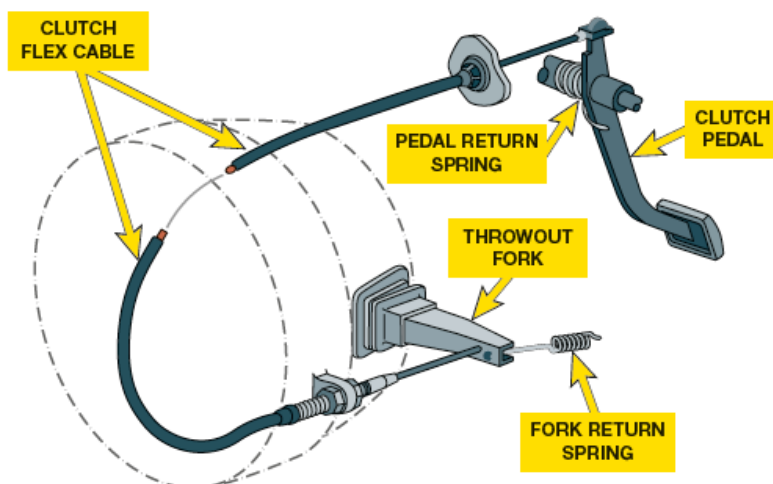

Figure 3. Clutch cable and pedal assembly.
- Inspecting mechanical linkage systems Figure 3.